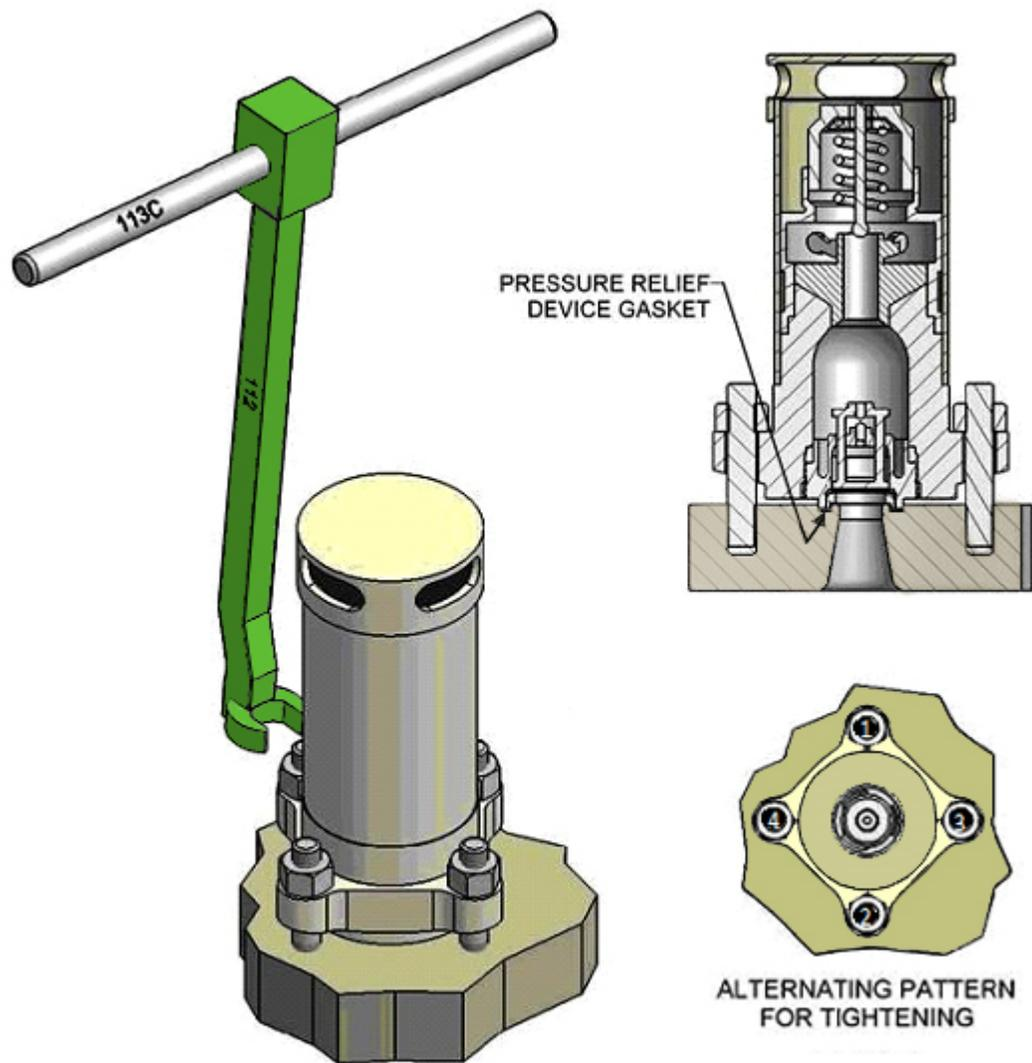

Figure 4.3 – Pressure Relief Device Leaks and Required Tools
- A) Tighten stud nuts in an alternating pattern using WRENCH 112 and WRENCH BAR 113C (See Figure 4.3). Test for leaks.